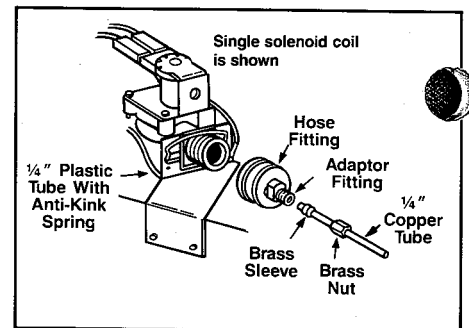

FIGURE 35
3. Remove the compressor compartment cover from the bottom rear of the refrigerator to reveal the water valve coupling. Place a small container under the valve to catch water spills. Remove the brass hose fitting from the valve. Unscrew the compression nuts from the tube and bottom of valve. Push end of the tubes away from the valve fitting. See Figure 35.